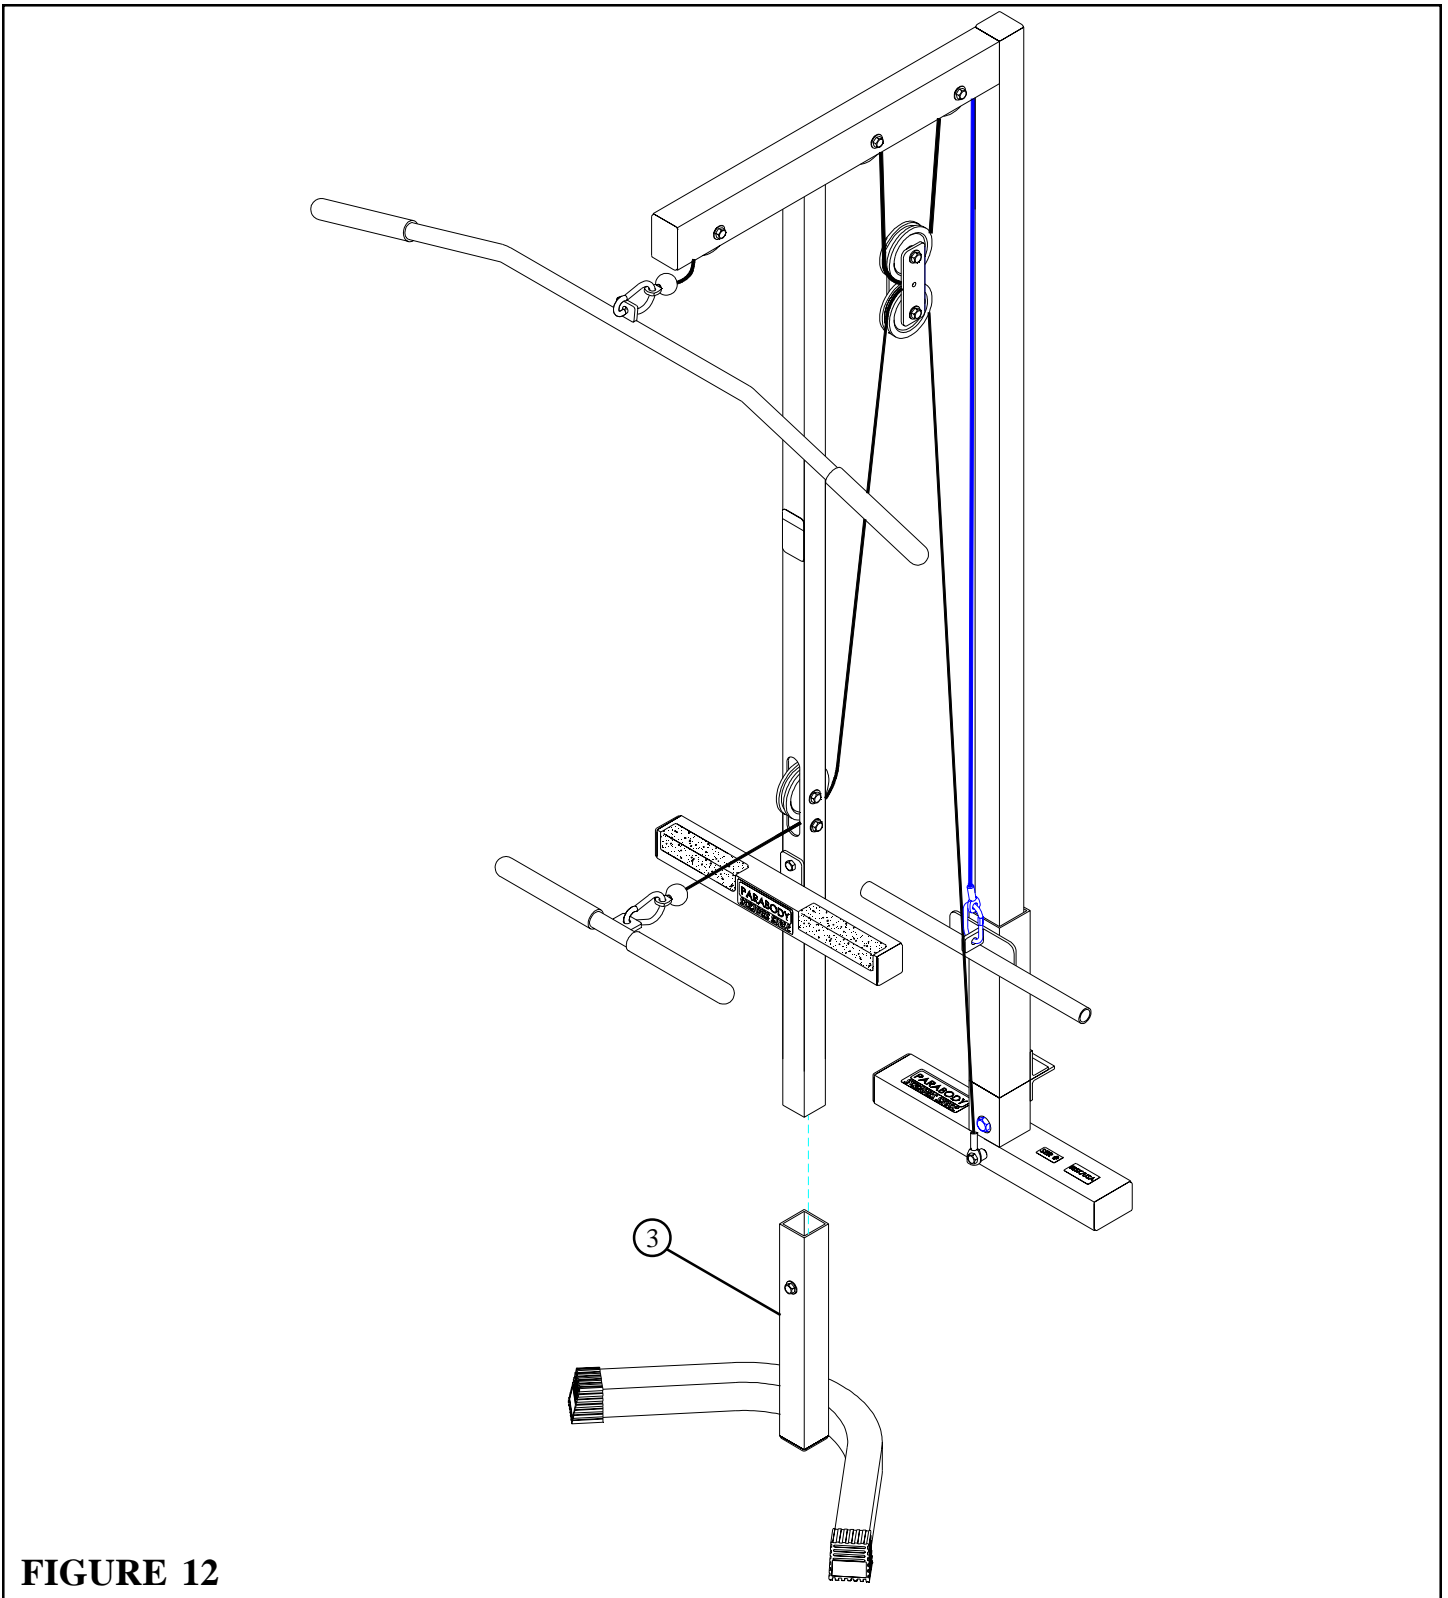

FIGURE 12
- Tilt the 848101 back and remove the STAND (3) as shown in FIGURE 12.